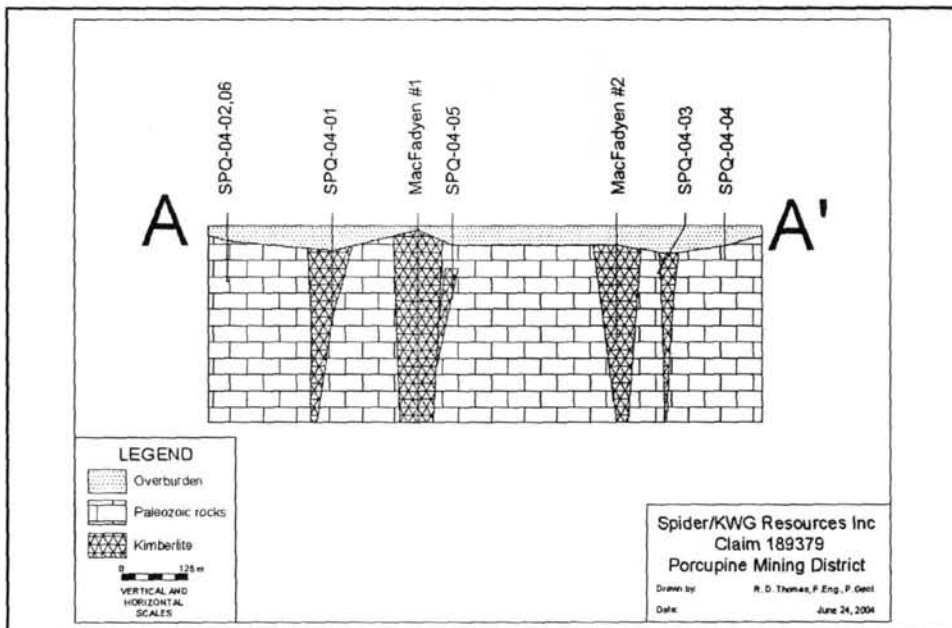

Figure 11. Hypothetical section along line A-A' shown, in Figure 10, illustrating the relative positions of the kimberlites.
- 10. Map of part of the claims showing the locations of the drill holes and the line of section A-A' in figure 11. 13